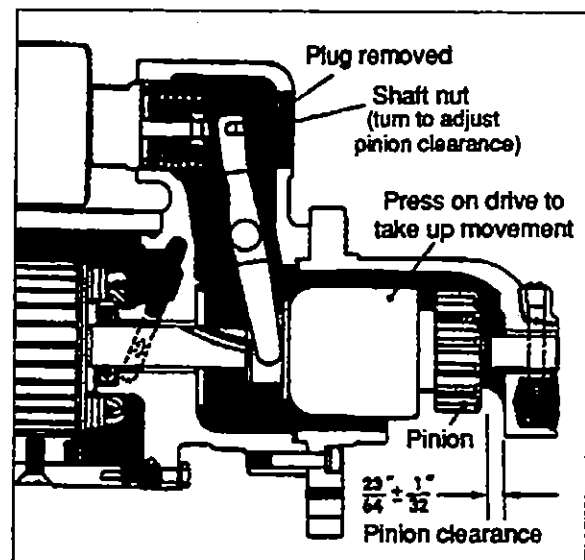

Figure 39
Pinion clearance should be checked after reassembly of motor to ensure the clearance is within specifications. To check pinion clearance (starting motor off engine), first disconnect the motor field connector from the solenoid motor terminal. Connect 24 volt battery with the positive battery lead to the solenoid switch terminal (5), and the negative battery lead to the grounded (G) solenoid terminal. Momentarily flash a jumper lead from the solenoid motor terminal to the grounded (G) solenoid terminal. The pinion gear will now shift into cranking position and remain that way until the battery is disconnected. Push the pinion or drive back towards the commutator end to eliminate slack movement. Measure the distance between pinion and pinion stop. This should be  $23/64" \pm 1/32"$  (9,5 mm  $\pm$  0,79 mm). Pinion clearance is adjusted to these limits by turning the solenoid shaft nut after removing access plug in shift housing. See figure 39.